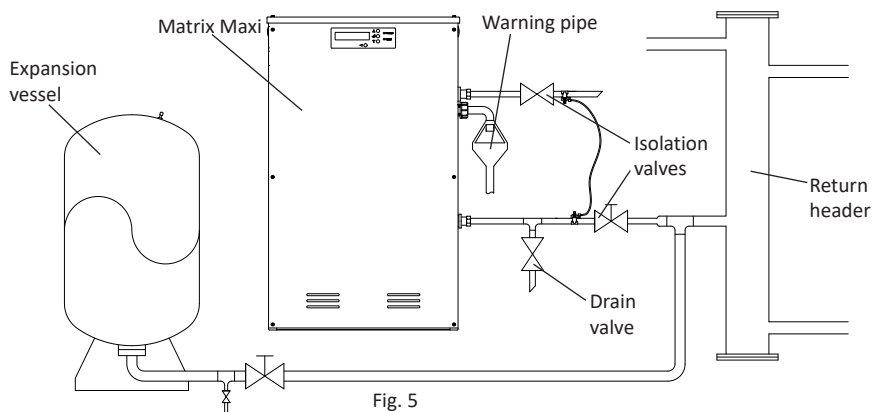

Fig. 5
2. Isolating valves **MUST** be installed on the unit inlet and outlet, to allow the unit to be isolated if required. The isolation valve on the outlet should be of a lockshield type. See Fig. 5.
3. A drain valve must be fitted on the outlet of the Matrix Maxi before the isolation valve. See Fig. 5.
6. The Matrix Maxi should be connected to the system return header along with the expansion vessels as specified in BS 7074. See Fig. 5.